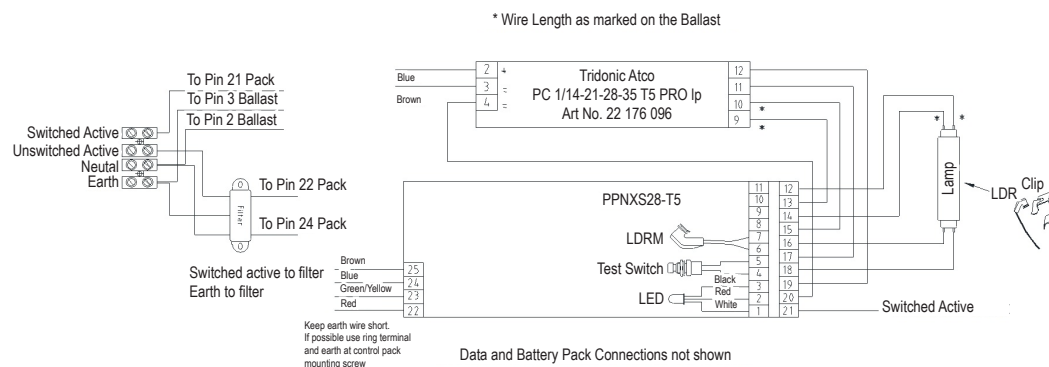

Figure 2: Wiring Diagram Nexus Power Pack using conventional electronic ballast
Data cable connects via the 3-way strain relief plug (supplied with the Power Pack) to the data terminal as shown in Figure 2.
4. Light sensing clip (LDR) monitors mains on/off lamp condition and is to be affixed on the mains lamp/tube refer Figure 2. Please note the light sensing clip (LDR) is not supplied for PL lamp Power Packs and the PL lamp power packs are programmed as non-maintained. (Refer PL lamp warning on page 1)